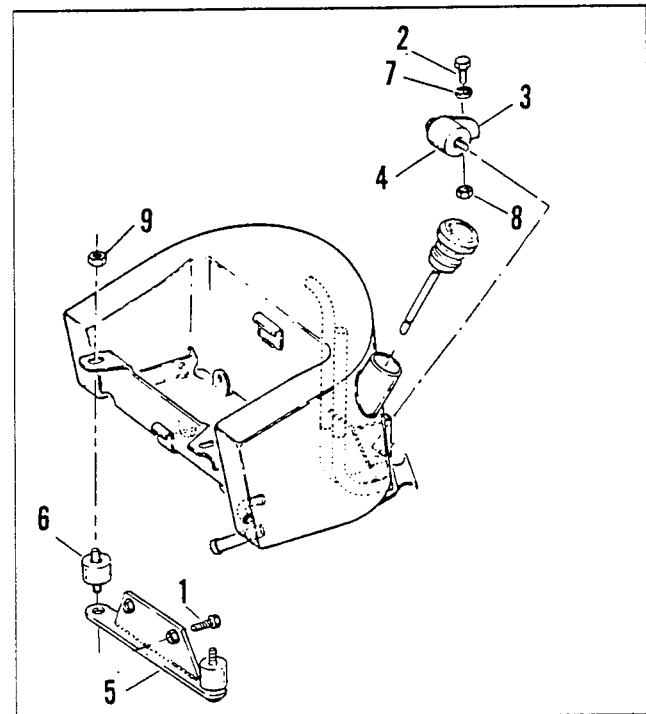

Figure 3. Oil Tank Assembly
13. See Figure 3. Remove two bolts (1) attaching oil tank rear mounting bracket (5) to frame.